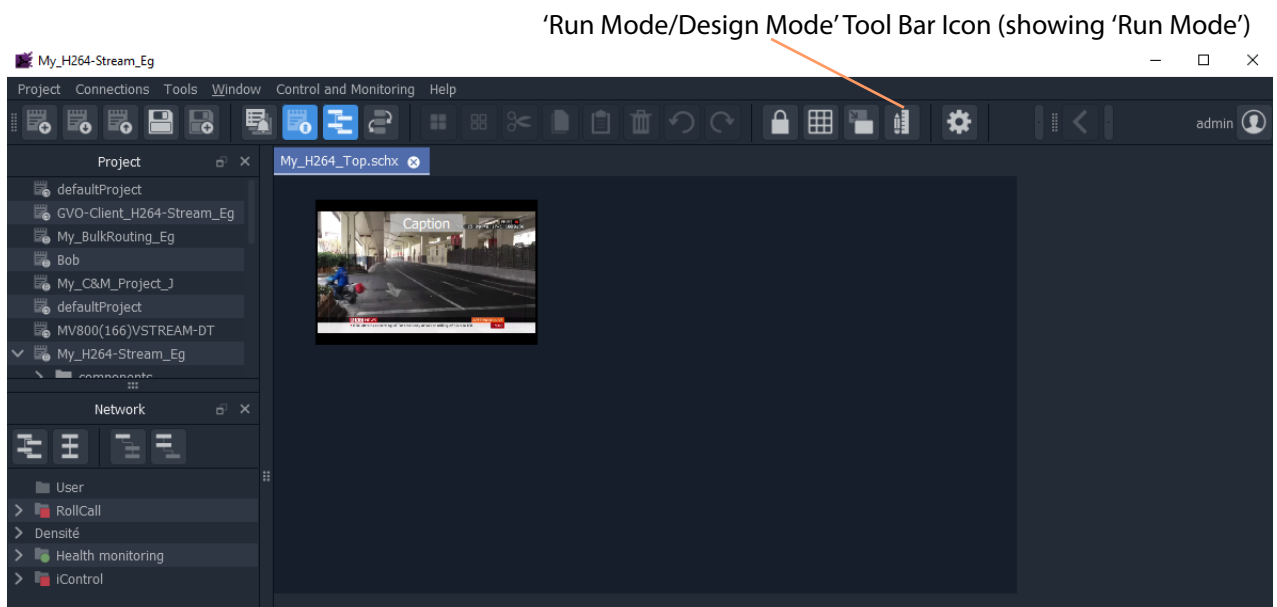

Fig. 4-8: Run Custom User Panel
- 6 Click the 'Run Mode/Design Mode' tool bar icon. See Figure 4-8.
The custom user panel is run and video appears as a live thumbnail image in the widget. See Figure 4-8.